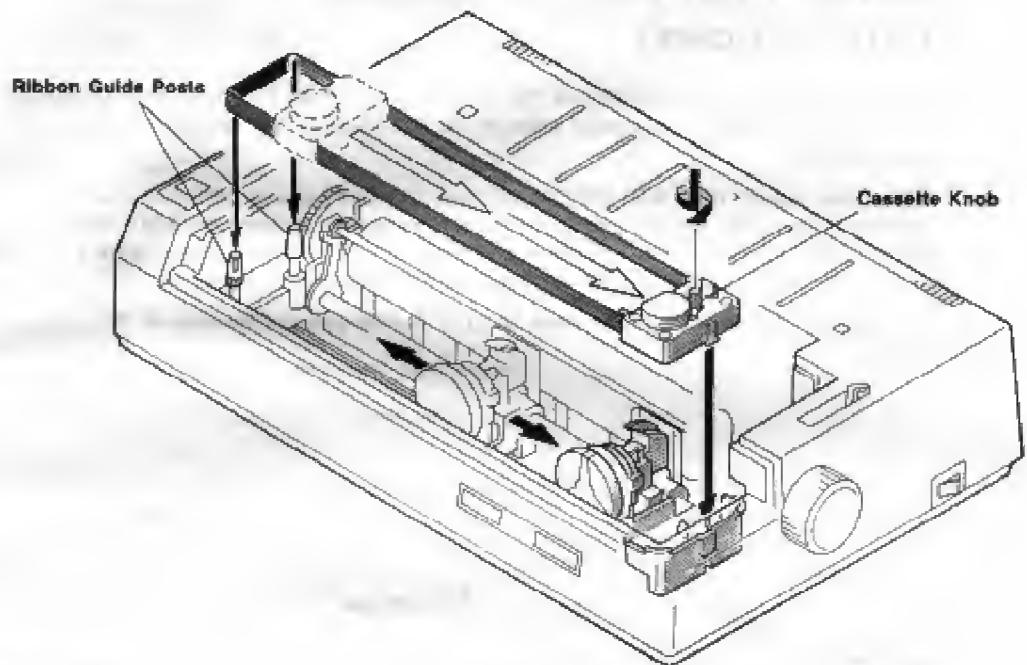

Figure 7. Ribbon Cassette Installation
9. Keep moving the Carriage and check that the ribbon advances properly. If the ribbon has not been properly fitted between the Ribbon Guide and Print Head (i.e., into the Print Head Ribbon Guide Rezel), the ribbon feed will not operate smoothly. (See Figure 7.)